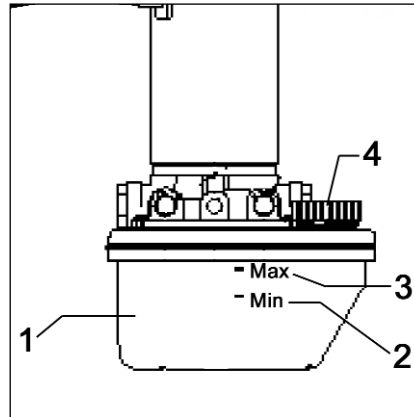

Fig.28
- Check hydraulic fluid level in tank (Fig. 28/1). The hydraulic fluid level must not fall below the minimum (Fig. 28/2). It should read between the minimum (Fig. 28/2) and the maximum (Fig. 28/3).
- Remove lid (Fig. 28/4) and refill as required.